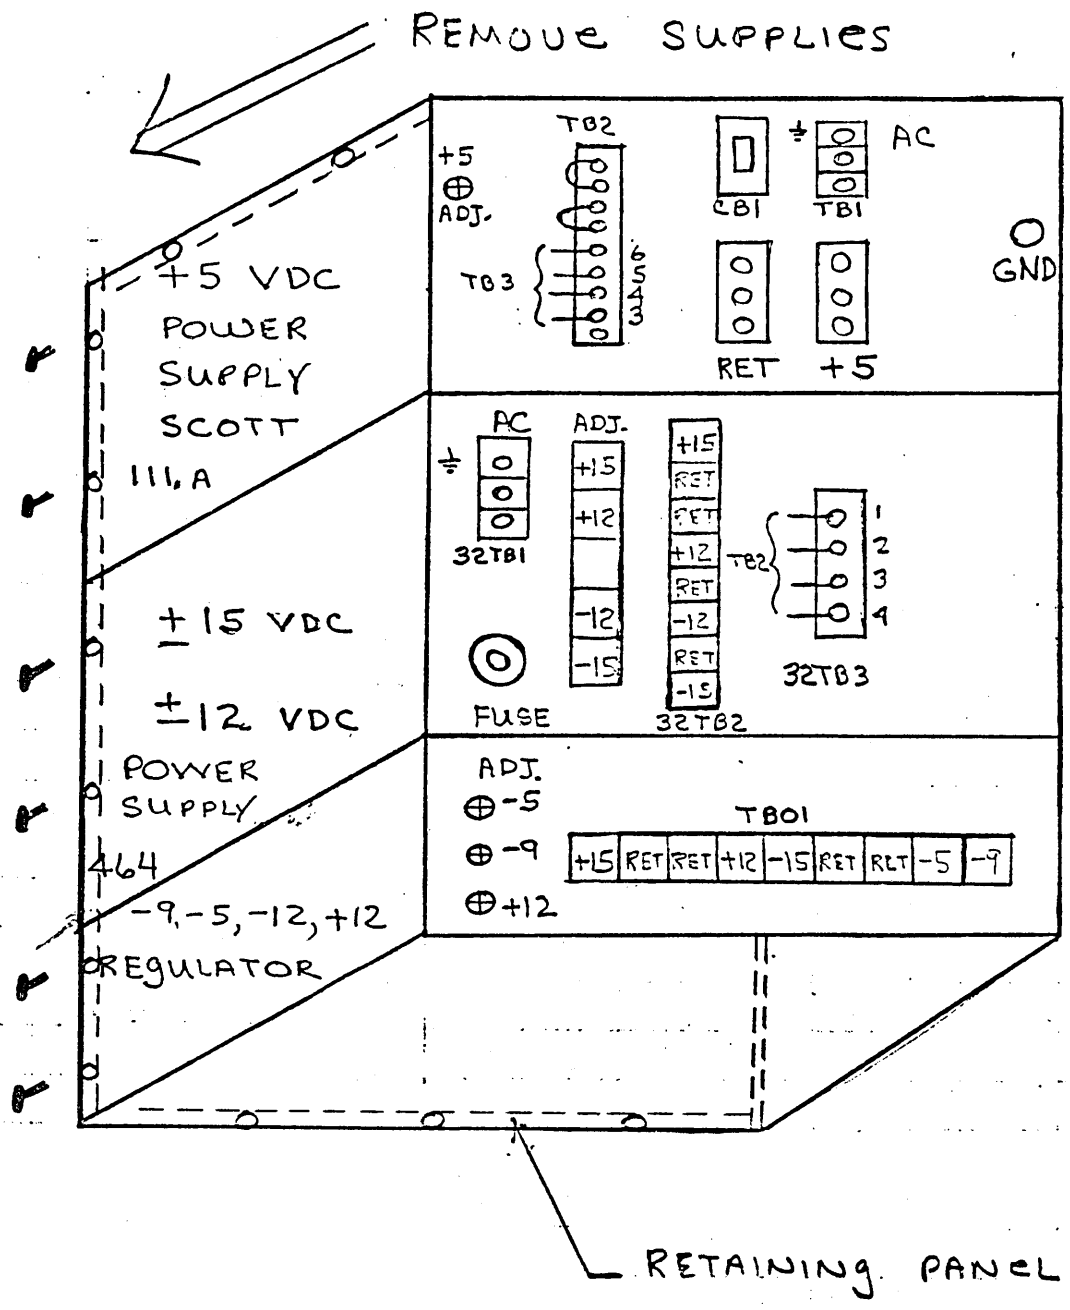

Figure 6A-11. Scott Power Supply for MP -9 V Housing
7. Remove the nine mounting screws holding the retaining plate at the rear of the power supply housing. (Figure 6A-11).